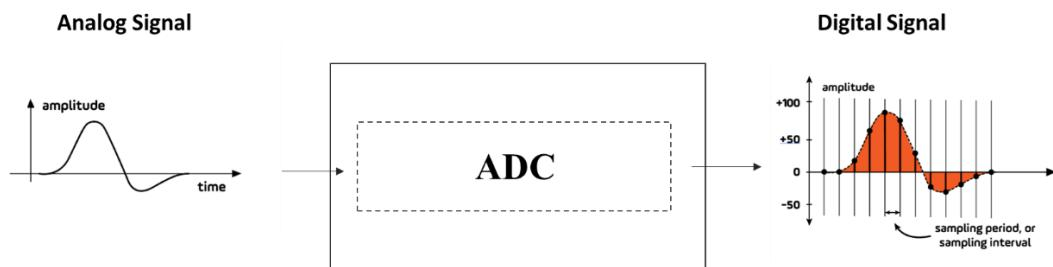

Figure 11.1: The sampling process
**Sampling** involves measuring the amplitude of an analog signal at regular intervals, called **sampling intervals**. The result is a series of discrete values that approximate the original analog signal. *Figure 11.1* depicts this process: